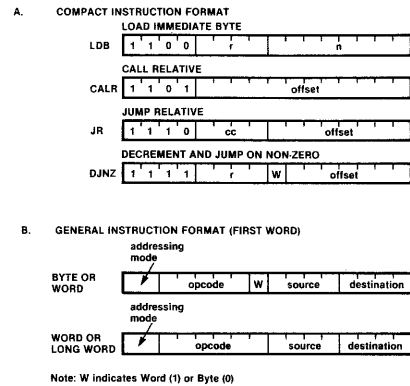

Figure 2.7. Instruction Formats
2.9.1 Instruction Formats. Formats of the instructions are shown in Figure 2.7. The two most significant bits in the instruction word determine whether the compact instruction format (A) or the general instruction format (B) is used. Compact formats encode the four most frequently used instructions into single words, thereby saving on instruction-memory usage and increasing execution speed. As long as the two most significant bits are not logic ones, the general format applies. In the general format, the two most significant bits in conjunction with the source-register field are sufficient for specifying any of the five main addressing modes. Source and destination fields are four bits wide for addressing the 16 general-purpose registers.